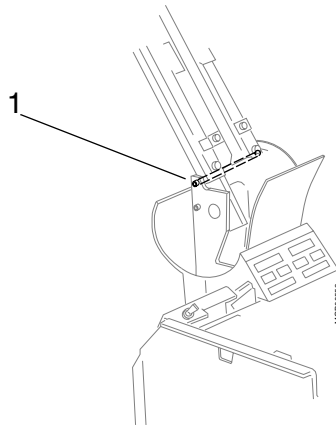

Fig. 23 Removing shaft
33. Remove the shaft (pos. 1 / Fig. 23).
5. Remount the shaft shown in Fig. 23.